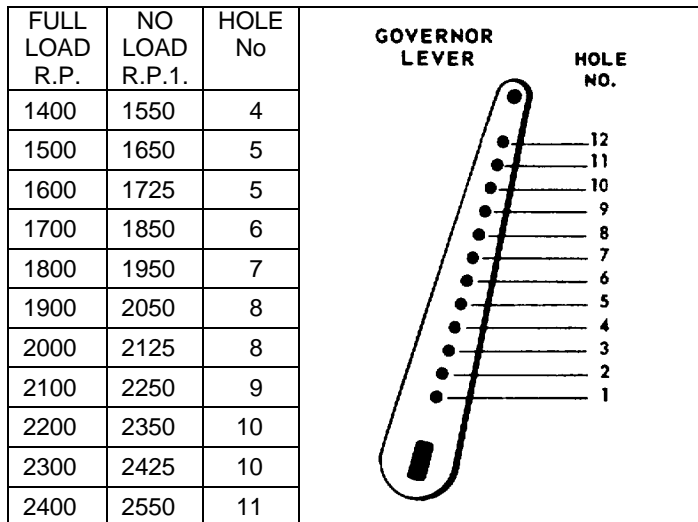

Figure 4-23. Governor Lever Chart
(1) Disconnect control rod ball joint from governor lever and push rod assembly toward carburetor as far as it will go. This will open throttle wide.
(2) Move governor lever as far as possible in same direction as control rod. Holding both parts in this position, screw ball joint onto control rod until right angle stud on ball joint fitting will register with hole in lever then, screw fitting in two more turns.
(3) Insert ball joint stud into hole in governor lever, assemble and tighten lock nuts. With governor lever pushed toward carburetor as far as it will go, there should be 1/16 inch clearance between throttle lever and stop pin on carburetor.
(4) The governor lever is furnished with 12 holes for attaching governor spring. It is important that spring is hooked into proper hole to suit speed at which engine is operated. Insert spring in hole number 7, figure 4-23.